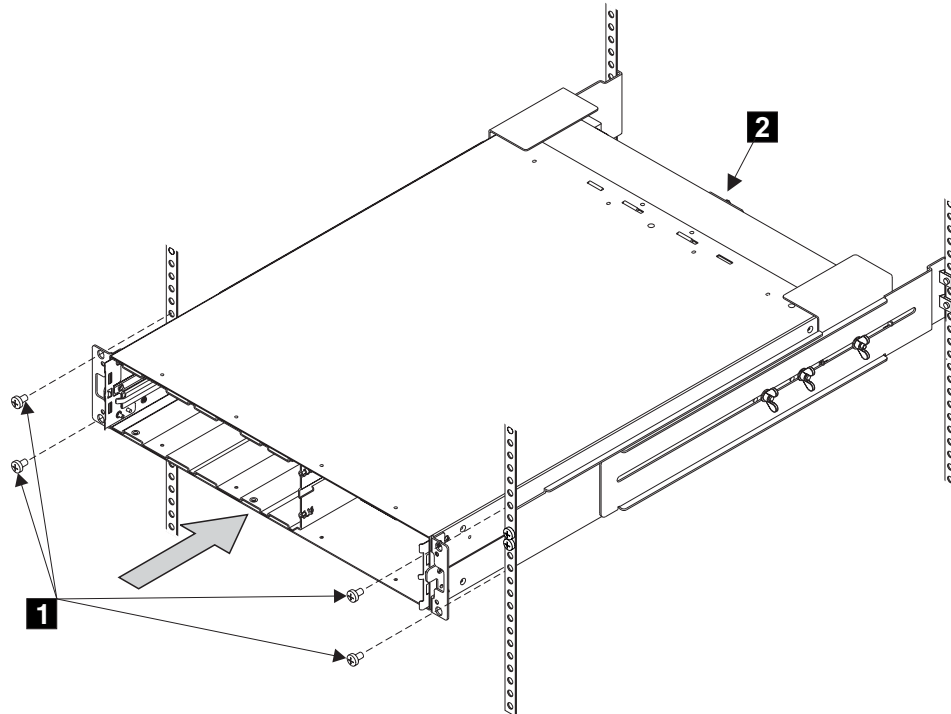

Figure 22. Installing the uninterruptible power supply into a rack
8. Install the front flathead screws **1** (see Figure 22 on page 15).